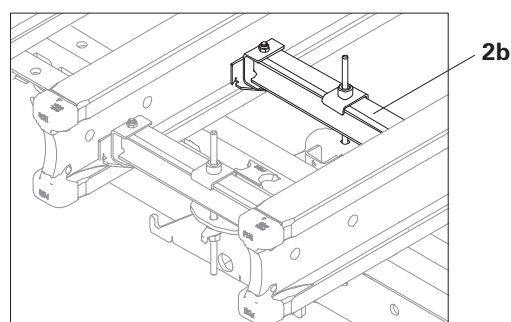

Fig. B1.14
7. Mount second Table Head Upper Head VD (2b) in the second hole of the Table Head Middle Part VD (3). (Fig. B1.14)
8. Repeat Steps 2 to 7 on the remaining Table Head Middle Parts VD (3).